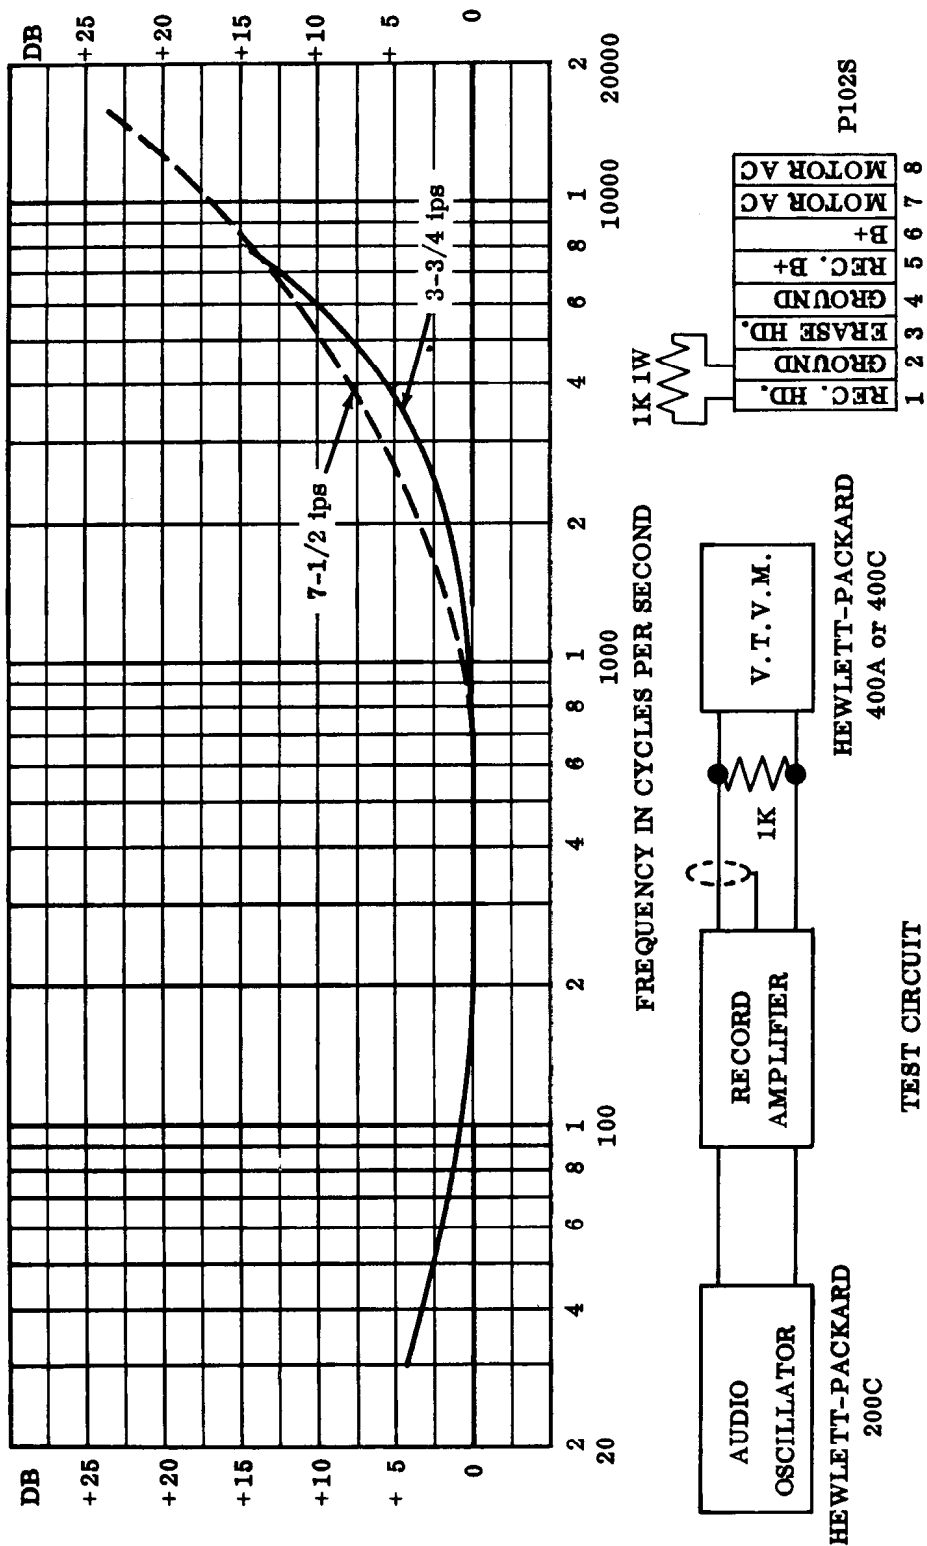

Fig. 5-2. Record Amplifier Response
Step 2: The bench procedure for record equalization given in Step 3 below is independent of the reproduce amplifier and is therefore preferred to the procedure outlined in Step 1 above. The record response curve and test setup are shown in Fig. 5.2.
tion. Connect an audio oscillator to the LINE INPUT connector J102S, set it to 250 cps and adjust the LINE REC LEVEL control for a vtvm reading of approximately .4 volts. Increase the oscillator setting to 8000 cps and adjust the REC. EQUAL capacitor C107 to set the response on curve at this point as shown in Fig. 5.2. Now sweep the oscillator slowly through the specified frequency range and check to see that response follows the curve throughout. Be sure the oscillator output remains constant over the range.